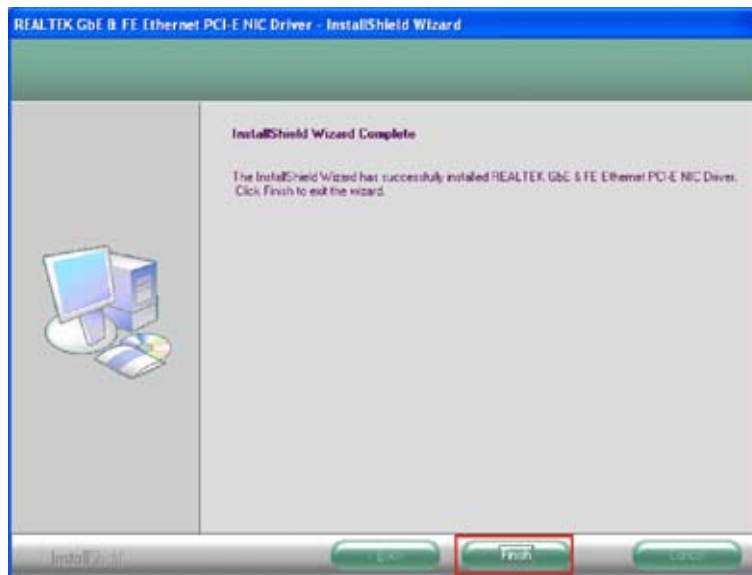

Figure 7-19: LAN Driver Installation Complete
Step 44: When the driver installation is complete, the screen in **Figure 7-19** appears.
Step 45: Click **FINISH** to exit the InstallShield Wizard (**Figure 7-19**).